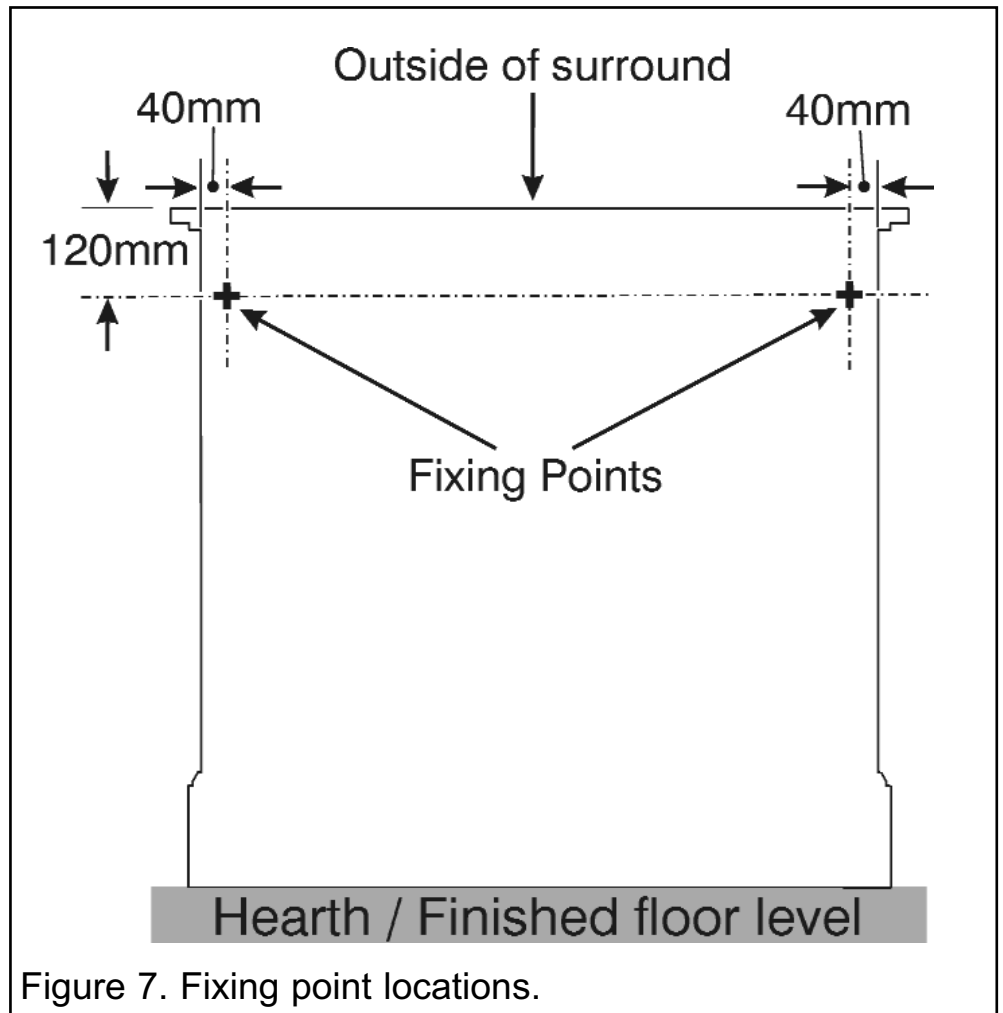

Figure 7. Fixing point locations.
- There are two wall fixing points shown in figure 7. Mark the positions of the fixing points on the wall. Drill suitable sized holes at the fixing points for the wall plugs supplied. Insert two wall plugs (J). Insert two screws (M) leaving approximately 3mm between the wall surface and the rear of the screw head.